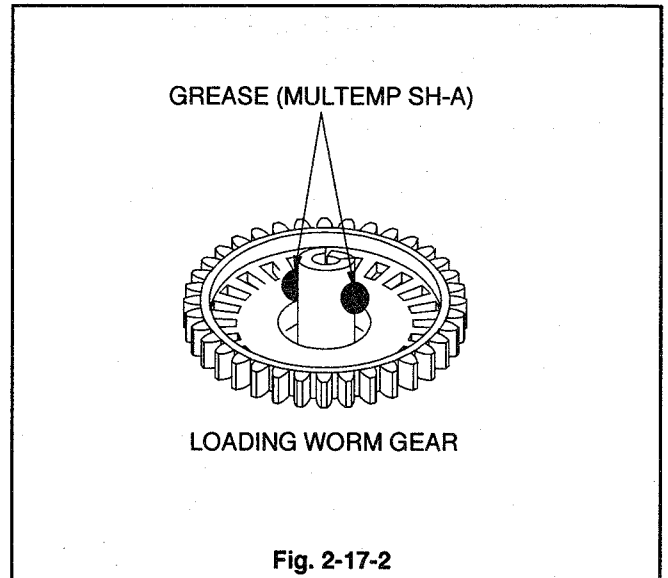

Fig. 2-17-2
- 1 Apply GREASE (MULTEMP SH-A) [859D055O80] to the area specified in Fig. 2-17-2 on the new LOADING WORM GEAR.